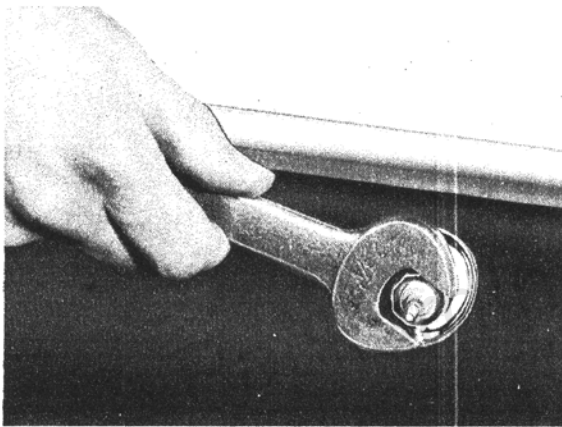

Figure 3 Removing Octagon Nut on Top of Cowl
4. Remove octagon nut (See Figure 3) and lift off fibre washer, spacer and rubber gasket.
2. Replace rubber gaskets, spacers, fibre washers and octagon nuts on top of cowl (See Figure 3).